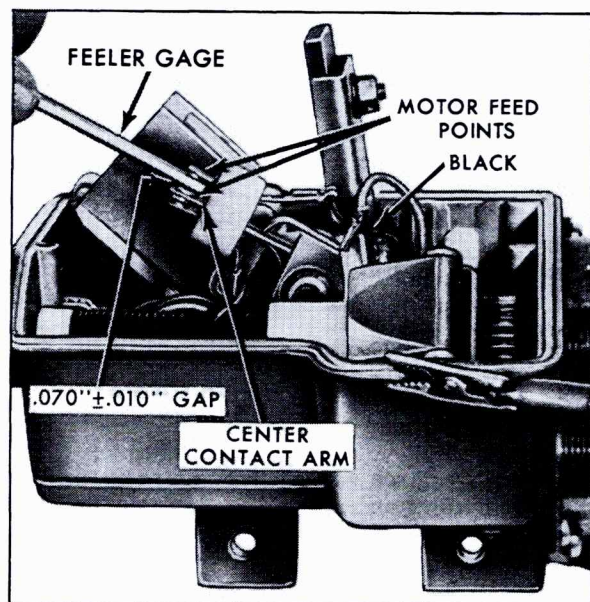

Fig. 15-14 Motor Feed Points Adjustment (Full Gap)
5. Measure gap between either motor feed point and center contact arm. This gap should be $.070'' \pm .010''$, Fig. 15-14. Bend either motor feed point to adjust and recheck gap.